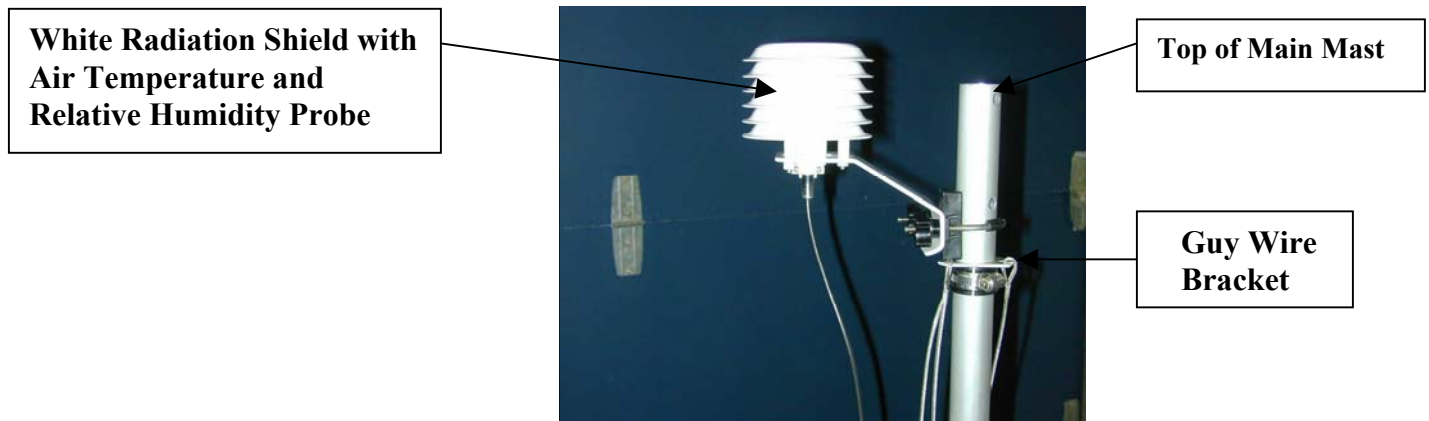

Figure 1
Step 2 – If using the guy wire assembly, remove from the mesh bag and slide it over the top of the main mast. It will rest on the permanent black retaining ring near the top of the mast. Insert the loop at the free end of the guy wire over the hook of the tie down peg. Insert pegs into ground after completing **Step 6**. (See Figure 1)
Step 3 – Remove the Air Temperature/Relative Humidity sensor housed in the white, circular radiation shield. Slide it over the tripod mast and let it rest on the guy wire collar or guy wire-retaining ring (if the guy wire is not being used). Do not tighten at this time. (See Figure 1)